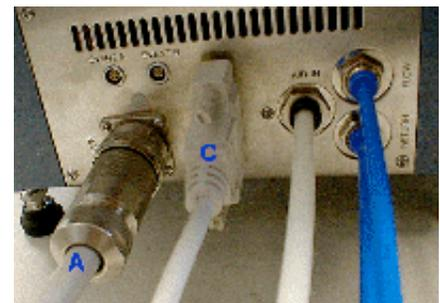

Figure 5.3
The Electronics Control Box forms the link between the rheometer and the computer. All the required processing is done within the control box. The following steps should be followed to connect the two units together (refer to Figure 5.3).
1. Push the 9-pin female connector into the 9-pin socket marked 'Computer' on the back plate of the controller (Cable B, Figure 5.3).